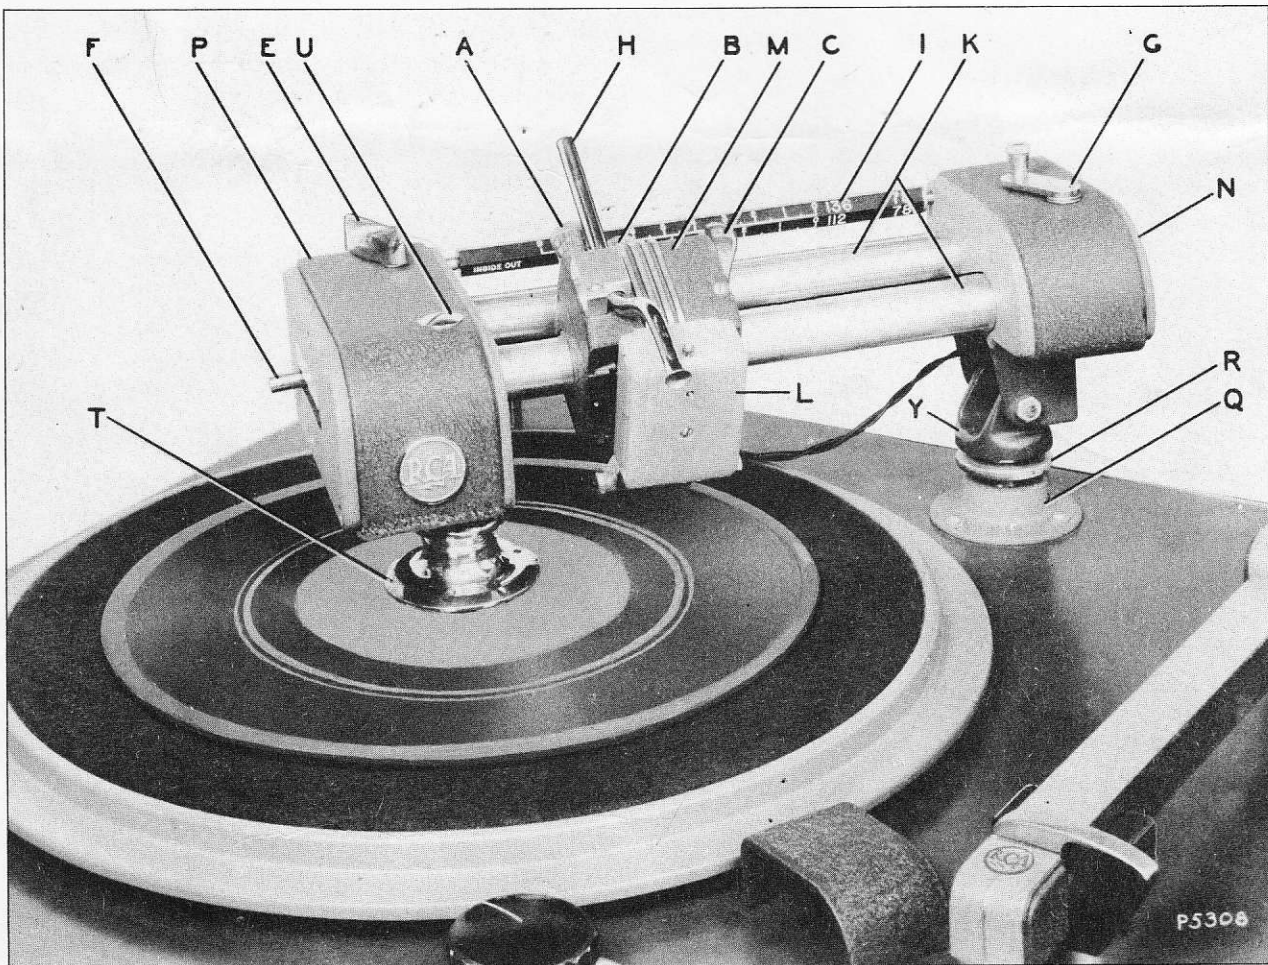
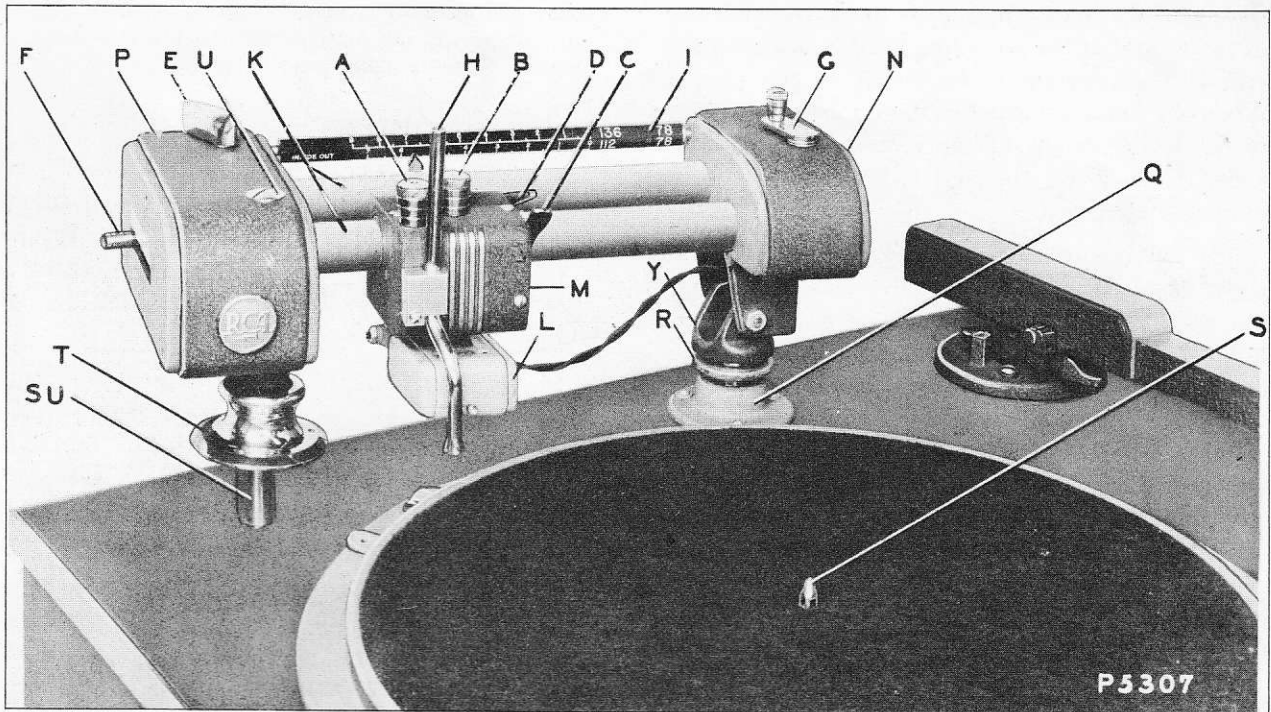
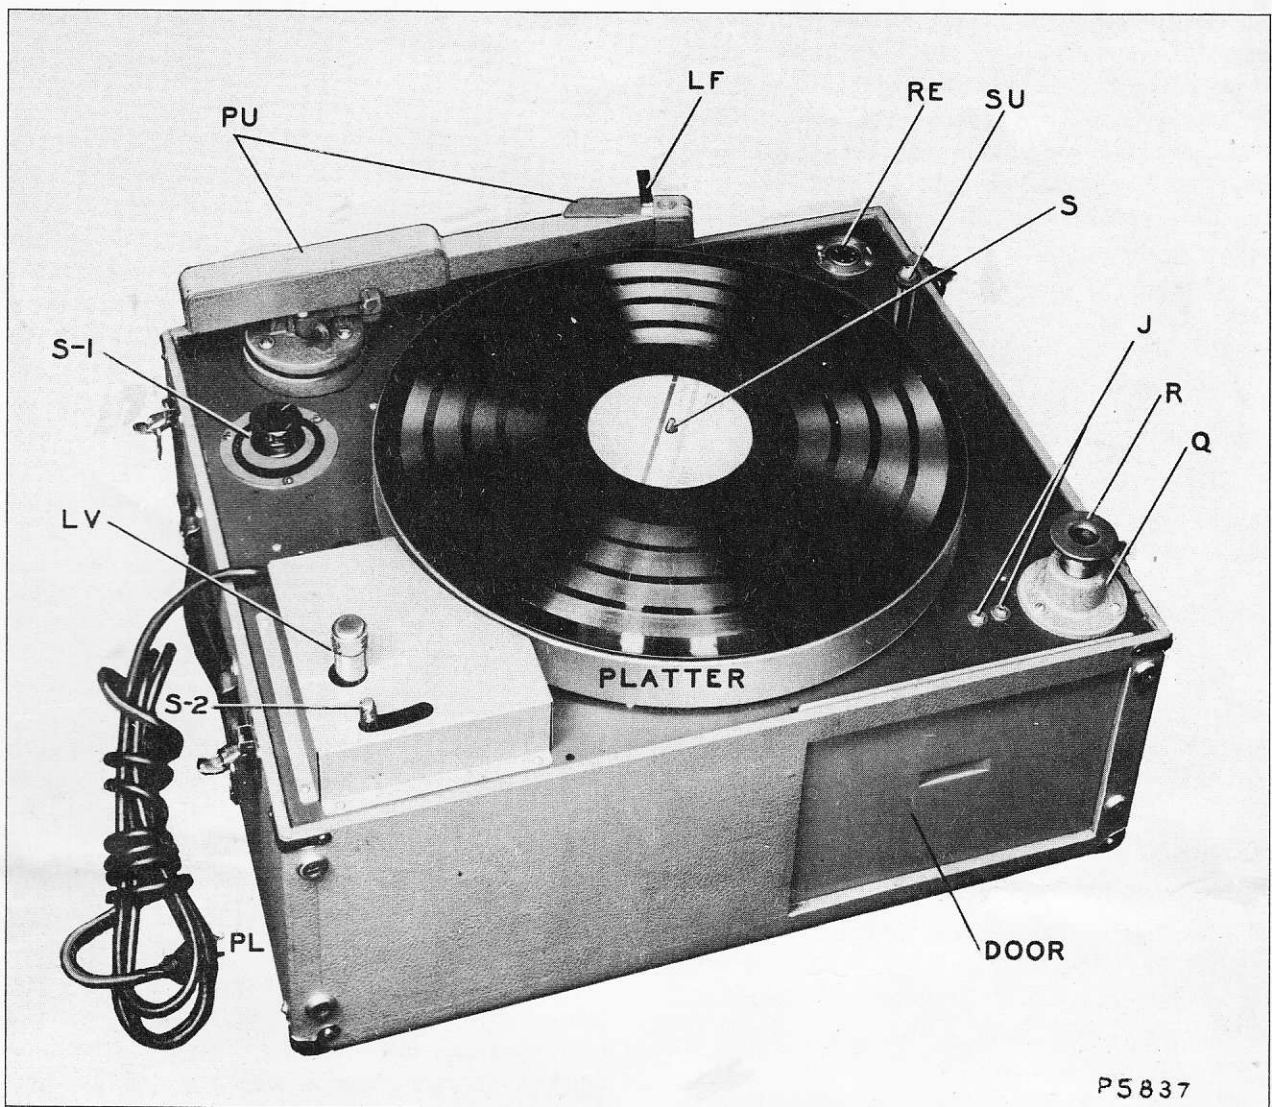

Figure 1—Recording Attachment MI-11852 Set Up for Operation
Figure 2—Recording Attachment in Position for Change of Record
Figure 3—Portable Turntable MI-11211-B
9. The feed screw extends into the head-drive housing (P) on the left and into the end bracket (N) on the right. Inside N it turns in a ball bearing and terminates in the bevel gear that engages a similar gear on the hand crank shaft. In the head-drive housing it terminates in a drive flange which is faced with a friction pad.
10. When the carriage (M) is raised (fig. 1), lever D (fig. 2) latches it in that position. Pressing levers C and D toward each other releases the latch and permits lowering the carriage to the position shown in figure 2. When the carriage is in this position, a feed nut in the carriage automatically engages the feed screw as soon as lever D is released. The recording head (L), however, remains in the raised, or stand-by, position until lever C is pressed down.
11. The head-drive housing (P) contains the head drive, the clutch, and the pitch control. Drive flange T (fig. 2) fits over spindle S of the turntable platter so that the flange rests on top of the
12. Knob E controls the engagement of the friction wheel with the drive flange on the feed screw. In figures 1 and 2 the knob is shown in the engaged position. Lever F controls the speed and the direction of carriage travel, in relation to the turntable spindle, by varying the point of contact between the friction wheel and the feed-screw flange along the diameter of that flange. It has six predetermined positions, marked IN and OUT to indicate direction of carriage travel with respect to the center, and "96", "112", and "136" to indicate lines per inch.
15. Figures 3 and 4 show the top of turntable MI-11211-B before and after, respectively, the recording attachment MI-11852 has been mounted. The mounting facilities, which comprise base Q, adjusting sleeve R, support SU, and terminal jacks J, are already in place on this turntable and consequently no preliminary preparations are required. Proceed as follows:
a. Securely attach a recording head (MI-11850-C or MI-11853) to the bracket provided for this purpose on the recording attachment carriage. Leave the carriage in the raised position (fig. 1).
b. With the clamps provided, fasten the recording-head leads to the carriage and also to the under side of the end bracket (N).
c. Place a recording blank on the turntable platter (fig. 3).
d. Insert the round shaft of the yoke (Y, fig. 1) into the adjusting sleeve (R).
e. Set the head-drive end of the attachment over the record blank so that the drive flange T (fig. 2) engages the spindle (S) of the turntable. Adjust until the drive pins mate with the holes in the blank and the drive flange (T) settles down squarely on the record blank.
f. Insert the terminals of the recording head into the pin jack (J).
plied and mount it as shown in figures 1 and 2. This tube is usually not installed on portable equipment because its use requires a suction pump.
17. When the Type 72-D/72-DX recording attachment is to be used on a transcription turntable of the Type 70 series, an MI-11854 recording attachment base kit must be installed on the turntable. This kit comprises the mounting facilities enumerated in paragraph 15 and shown in figure 3. Figures 1 and 2 show parts Q and R of this kit, mounted on a transcription turntable. The 70-A and 70-B require in addition an MI-4910-A conversion kit.